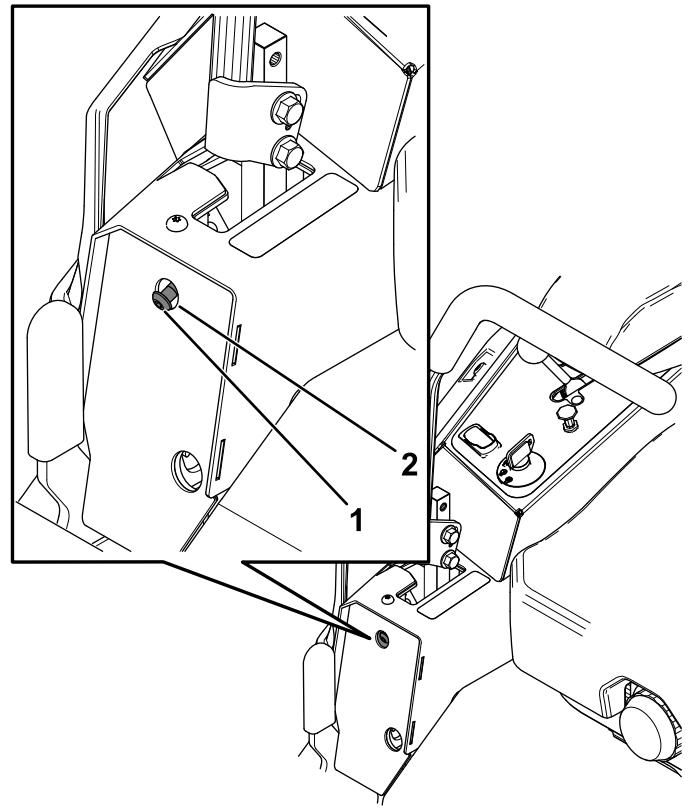

Figure 73
6. If the machine tracks to the right, insert a 3/16 inch hex wrench through the access hole in the left, front cover panel and rotate the tracking screw clockwise or counterclockwise to adjust the travel of the lever (Figure 73).
7. If the machine tracks to the left, insert a 3/16 inch hex wrench through the access hole in the right, front cover panel and rotate the tracking screw clockwise or counterclockwise to adjust the travel of the lever (Figure 73).